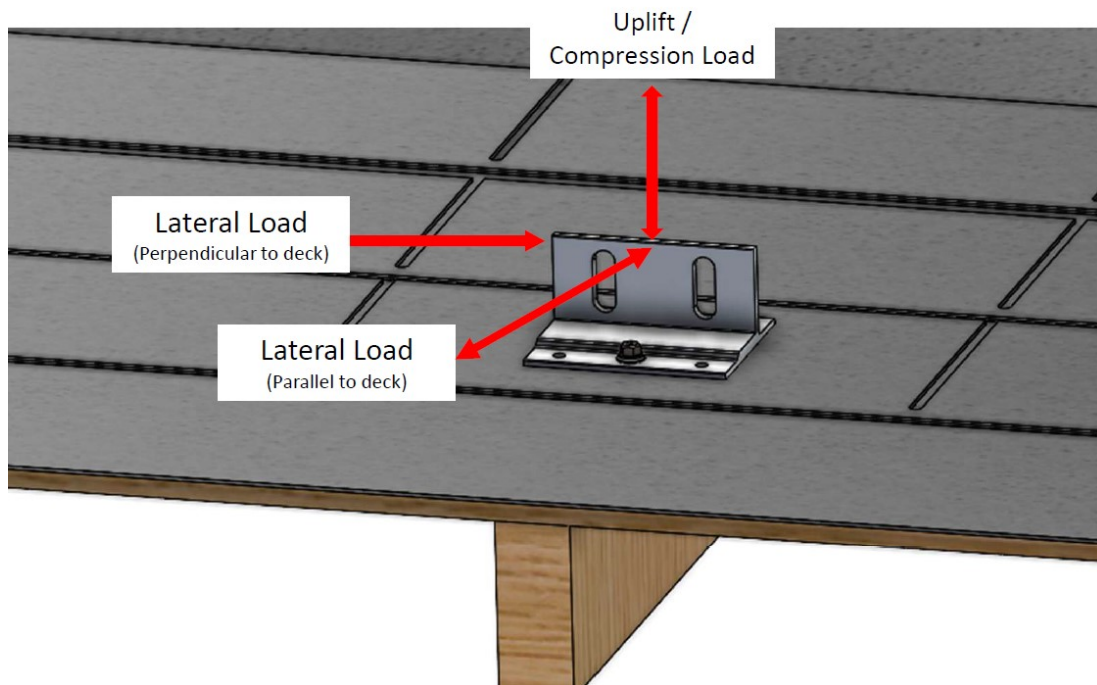

Figure 1.2: Splice Foot X: Force Loading Diagram (rafter)
3. Figure 1.2: Splice Foot X – Force loading diagram (rafter)
1. Determined using NDS Eq. 12.2-2 with 1.75" minimum thread length 2. Allowable lateral load assumes worst case loading at top of slots, with allowable shear values based on Table 12M (NDS) with appropriate reduction factors 3. Allowable uplift load includes a 1.6 load duration factor for wind. Allowable shear load includes a 1.15 load duration factor for snow. No additional increases are permitted. 4. The effect of bolt slippage has not been evaluated 5. Assumes a minimum specific gravity G=0.43 6. Reference Figure 1.2 for load direction and application